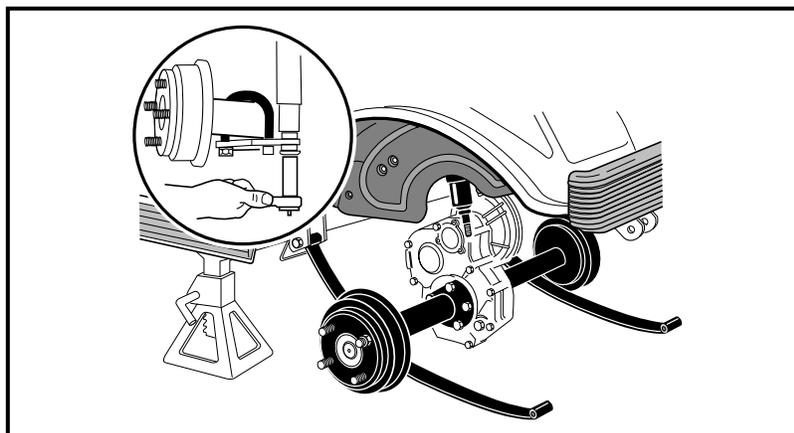

Figure 15-5 Lower Axle
7. To gain easier access to the motor, lower the transaxle as low as it will go. If more room is needed, remove the jack from beneath the transaxle and allow the springs to rest on the floor (**Figure 15-5, Page 15-3**).